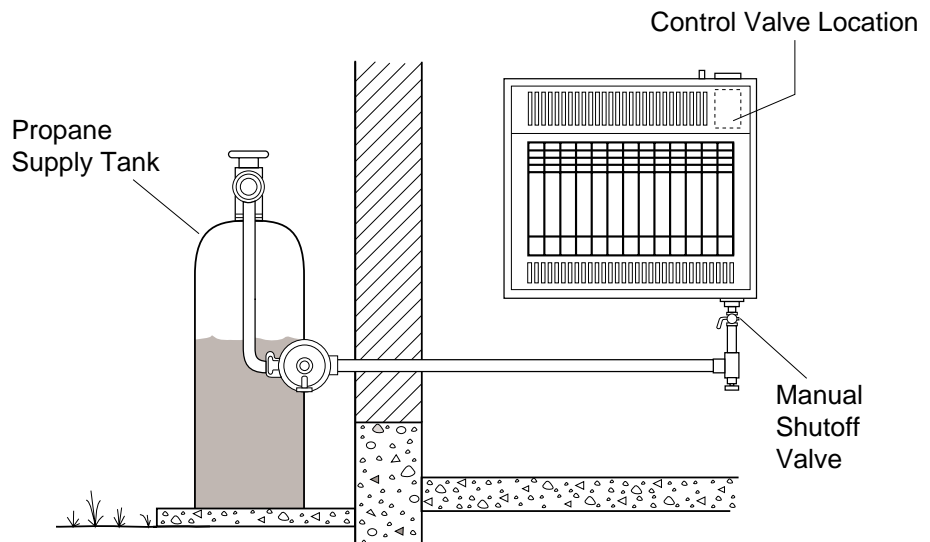

Figure 13- Checking Gas Joints
3. Check all joints from propane supply tank to manual shutoff valve (see Figure 13). Apply mixture of liquid soap and water to gas joints. Bubbles forming show a leak.
4. Check all joints from manual shutoff valve to control valve (see Figure 13). Apply mixture of liquid soap and water to gas joints. Bubbles forming show a leak.